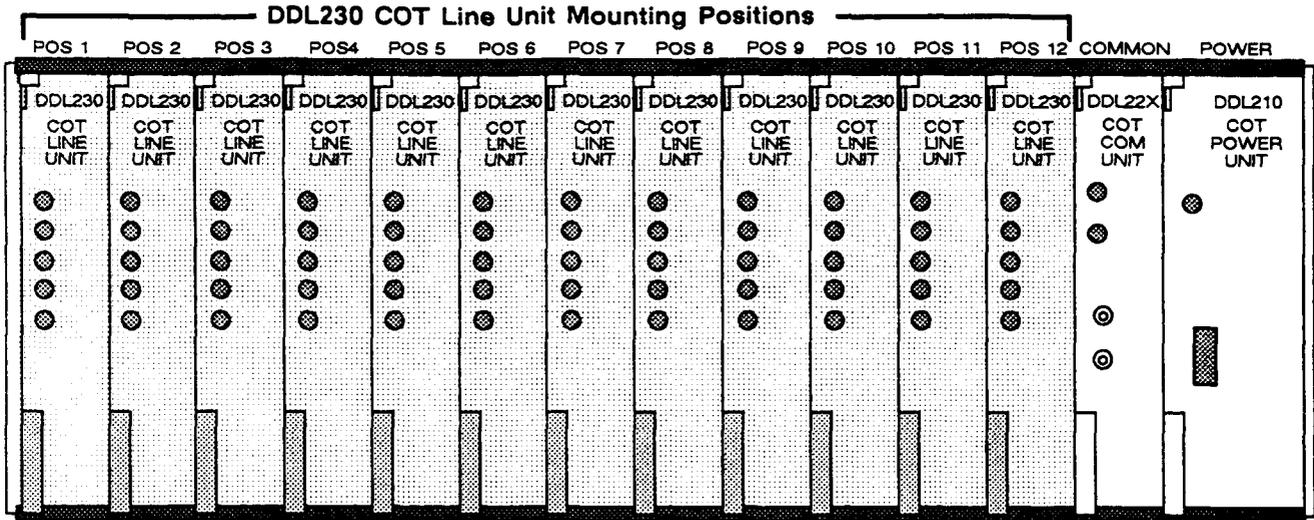

Figure 4. DuaLine Plus Central Office Terminal Shelf Showing Line Unit Module Positions (Front View)
5.01 Wescom DDL230 COT LU mounts in one position of the Wescom DuaLine Plus Central Office Terminal shelf. Refer to Figure 4 for proper shelf position.
(b) Insert and seat the COT Line Units in their assigned slots per facility plan (see Figure 4). The POWER/SELF TEST LED of each module lights steady. If the POWER/SELF TEST LED blinks continuously (self-test fail) or does not light for any COT Line Unit, replace that module.